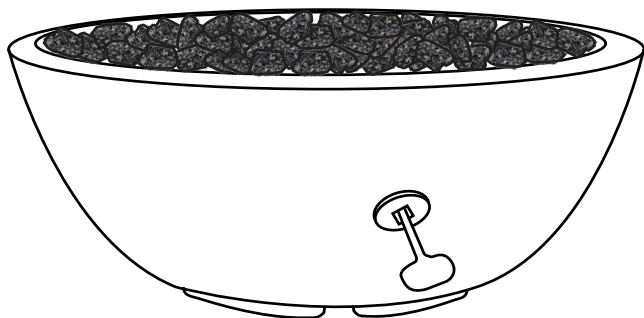

Fig. 6 Media (lava rock) installation.
2. Ensure all shut-off valves and key valve is fully open. See page 9; Fig 6.